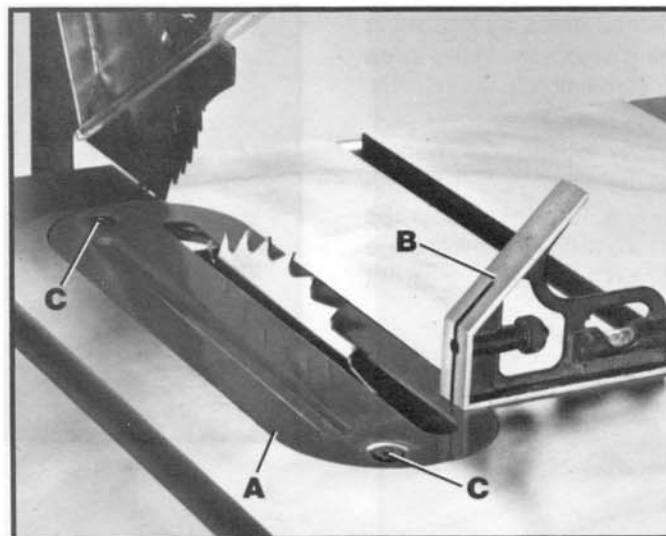

Fig. 31
The table insert (A) Fig. 31, should be adjusted so it is flush with the saw table surface. Place a straight edge or square (B) on the saw table extending over the insert, as shown. If an adjustment to the insert is necessary, tighten or loosen the two adjusting screws (C).